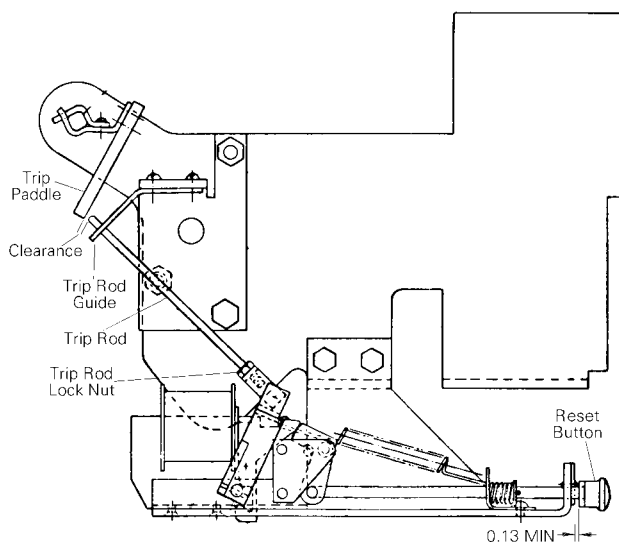

Figure 8-31. Open-fuse lockout adjustments, side view.
3. Lower the open-fuse lockout, guiding the trip rod through the trip rod guide on the mounting bracket, as shown in Figure 8-31.
- b. Loosen the trip rod lock nut and turn the rod in or out to give a 0.13-inch clearance between the trip paddle and the end of the trip rod, as shown in Figure 8-31.
5. Clearance of 0.13 inch should be maintained at the reset knob, as shown in Figure 8-31. To adjust this clearance, loosen the lock nut at the button and turn the button in until the proper distance is achieved. Retighten the lock nut.